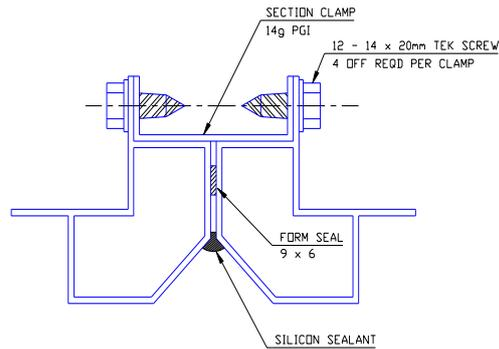
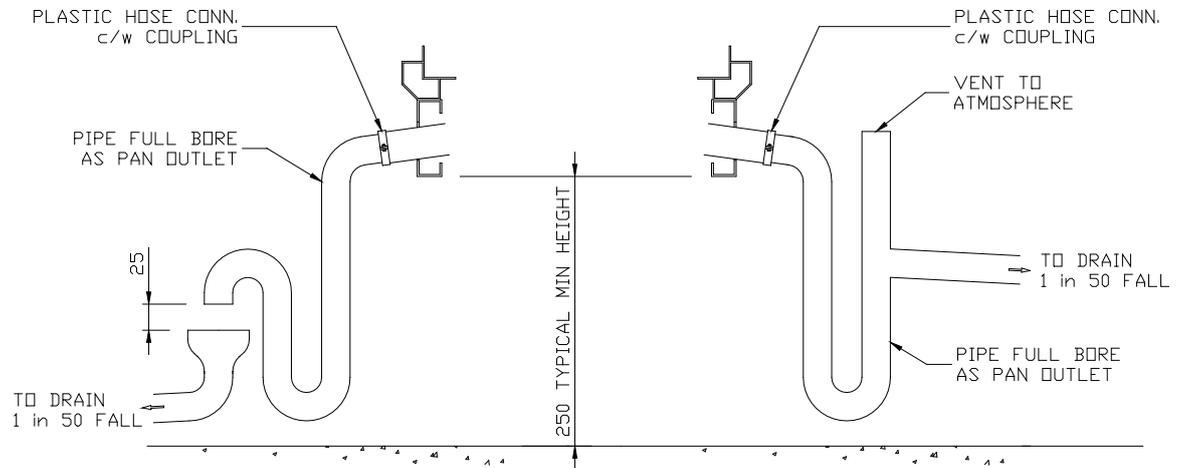

Figure 2 - Internal Fixing of Shipping Split
Figure 1
When lifting a unit using a fork truck, ensure that the whole unit is supported by the full length of the forks under the channel base. Refer Figure 1.
For larger units, ensure that the unit is supported under a minimum of two of the base channels, depending upon the size, weight and number of channels on the unit. Refer Figure 2.
- Lock the sections together with the securing devices supplied (see Figure 2 & 3 below).
- On starting, it should be checked that the fan direction of rotation is correct and that the motor is not overloaded. Figure 1 shows a forward curved impellor, Figure 2 a backward
Figure 1 illustrates two methods of trap venting.